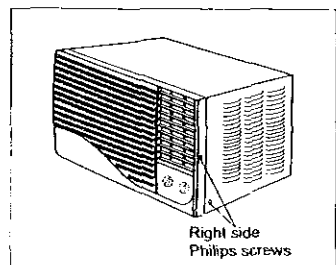

Fig 5
A Remove total of 4 Philips screws securing the chassis to the cabinet. There are (2) screws on each side. The set of screws closest to the front of the unit secure the front panel to the cabinet. The set of screws closest to the rear of the unit secure the cabinet to the chassis (Fig 5)